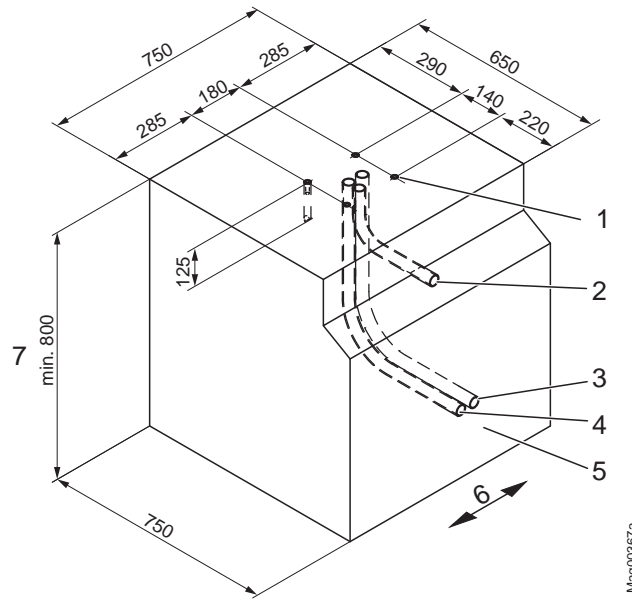

Fig. 12: Foundation plan Access XL (dimensions in mm)
→ See page 44, Fig. 11 and page 46, Fig. 12.
→ See page 46, Fig. 12.
1. Dig foundation hole pursuant to Fig. 11 and Fig. 12.
3. Place empty conduits pursuant to Fig. 12 in the foundation hole.
5. Fill concrete foundation pursuant to Fig. 12.